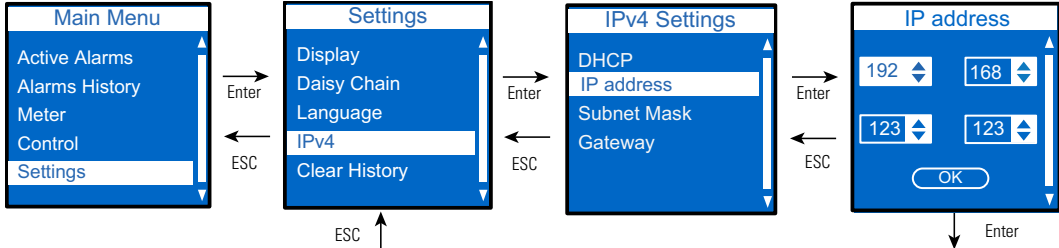

Figure 31. Set the Static IP Address
- 2. Set the static IP address (see Figure 31). Wait 10 seconds.